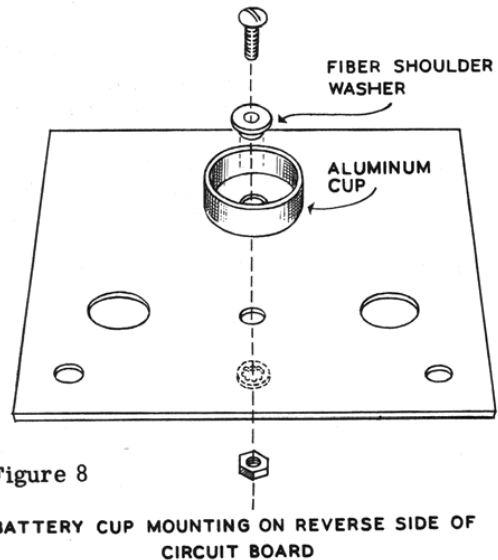

Figure 8
- () Using 6-32 x 3/8" screw and fiber shoulder washer, install battery holder in position shown in Figure 8.